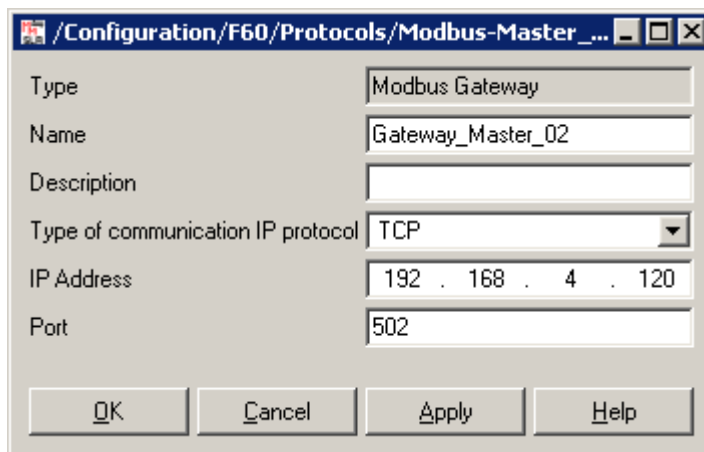

Figure 26: Entering the IP Address of the Modbus Master 02 (Gateway)
- ❑ Enter the parameters displayed in Figure 26.